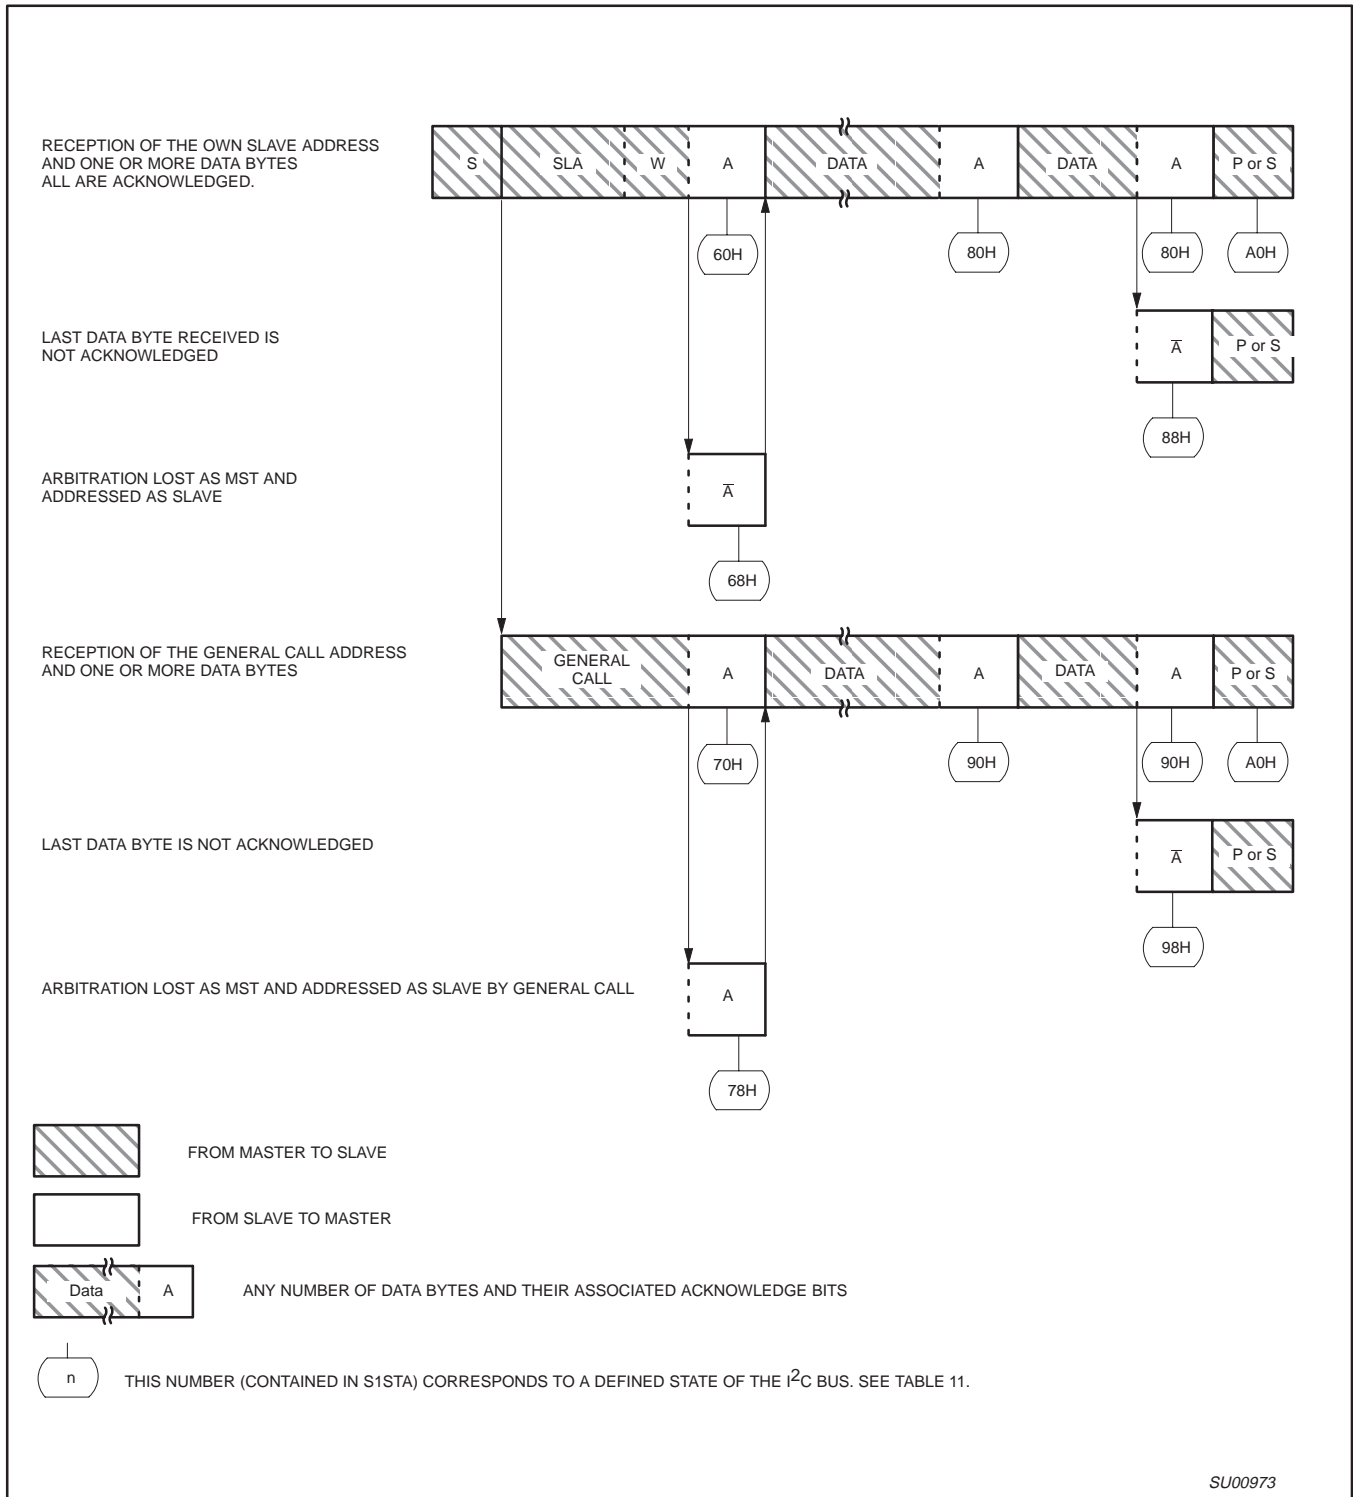

Figure 24. Format and States in the Slave Receiver Mode
**Slave Receiver Mode:** In the slave receiver mode, a number of data bytes are received from a master transmitter (see Figure 24). To initiate the slave receiver mode, S1ADR and S1CON must be loaded as follows: